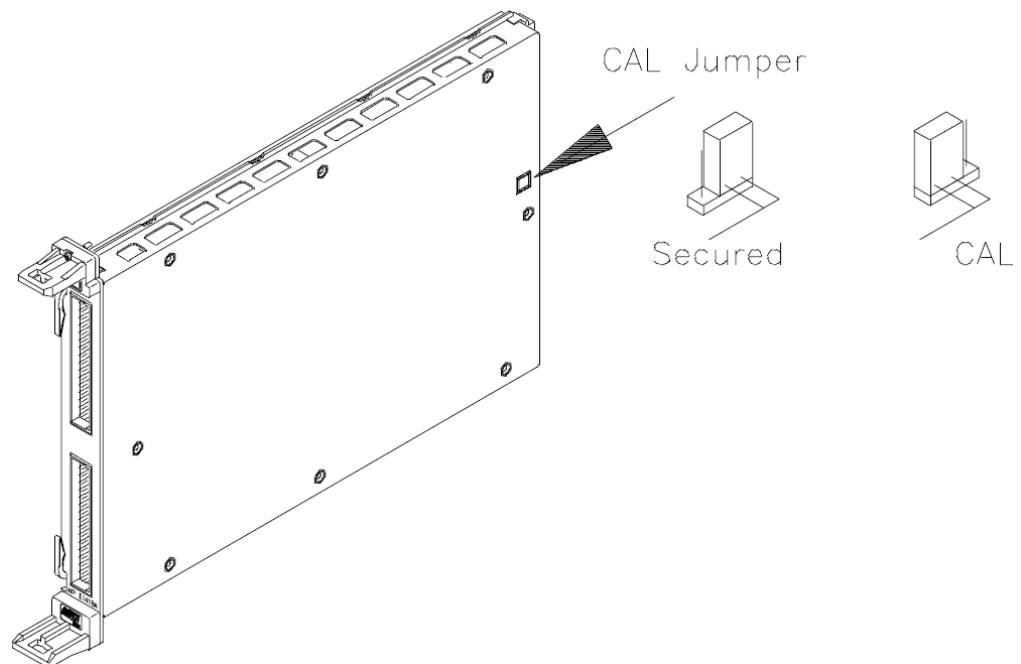

Figure D-1 CAL Store Enable Jumper
- 4 Set the Cal Store Enable Jumper to the CAL position as shown in Figure D-1.